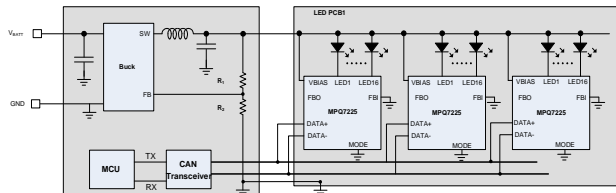

Figure 18: Application Circuit without AFC
The FBI, FBO, and MODE pins are related to AFC. If AFC is not used, float the FBO pin, then connect FBI and MODE to GND (see Figure 18).
If the MPQ7225 and DC/DC converter are on the same board, or there is a connected FBO wire condition, the resistor network can be connected following Figure 18. Then the FB resistors can be estimated with Equation (4):